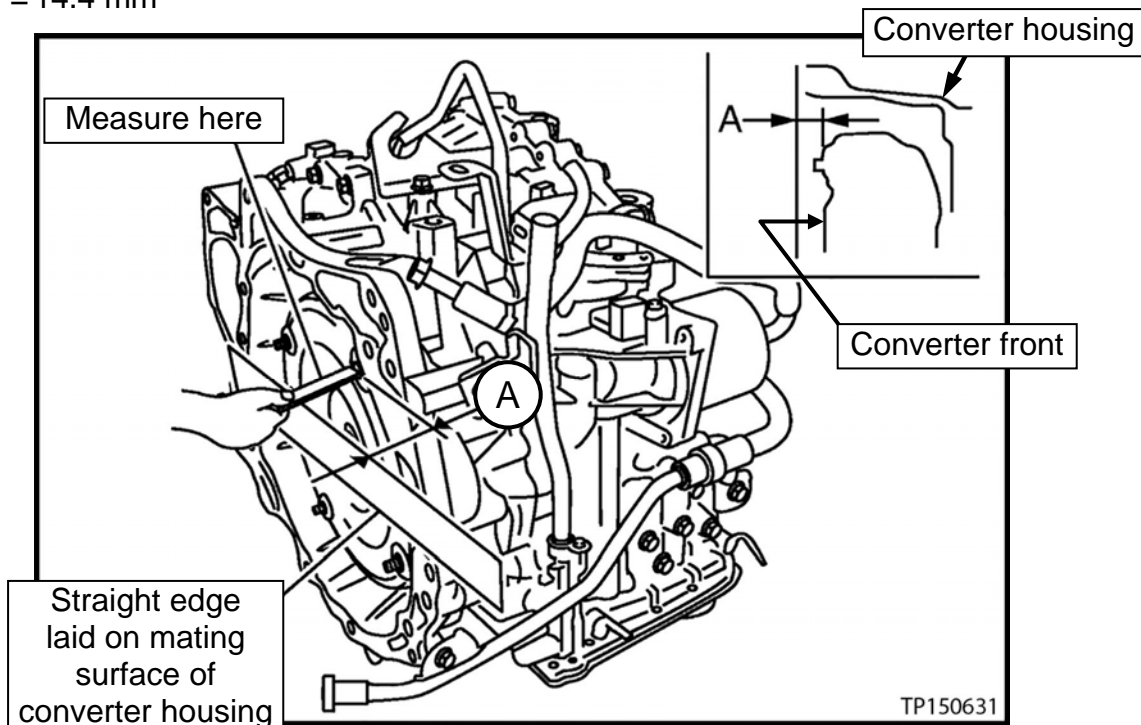

Figure 92
- Verify the torque converter is installed at the proper depth (see Figure 92).